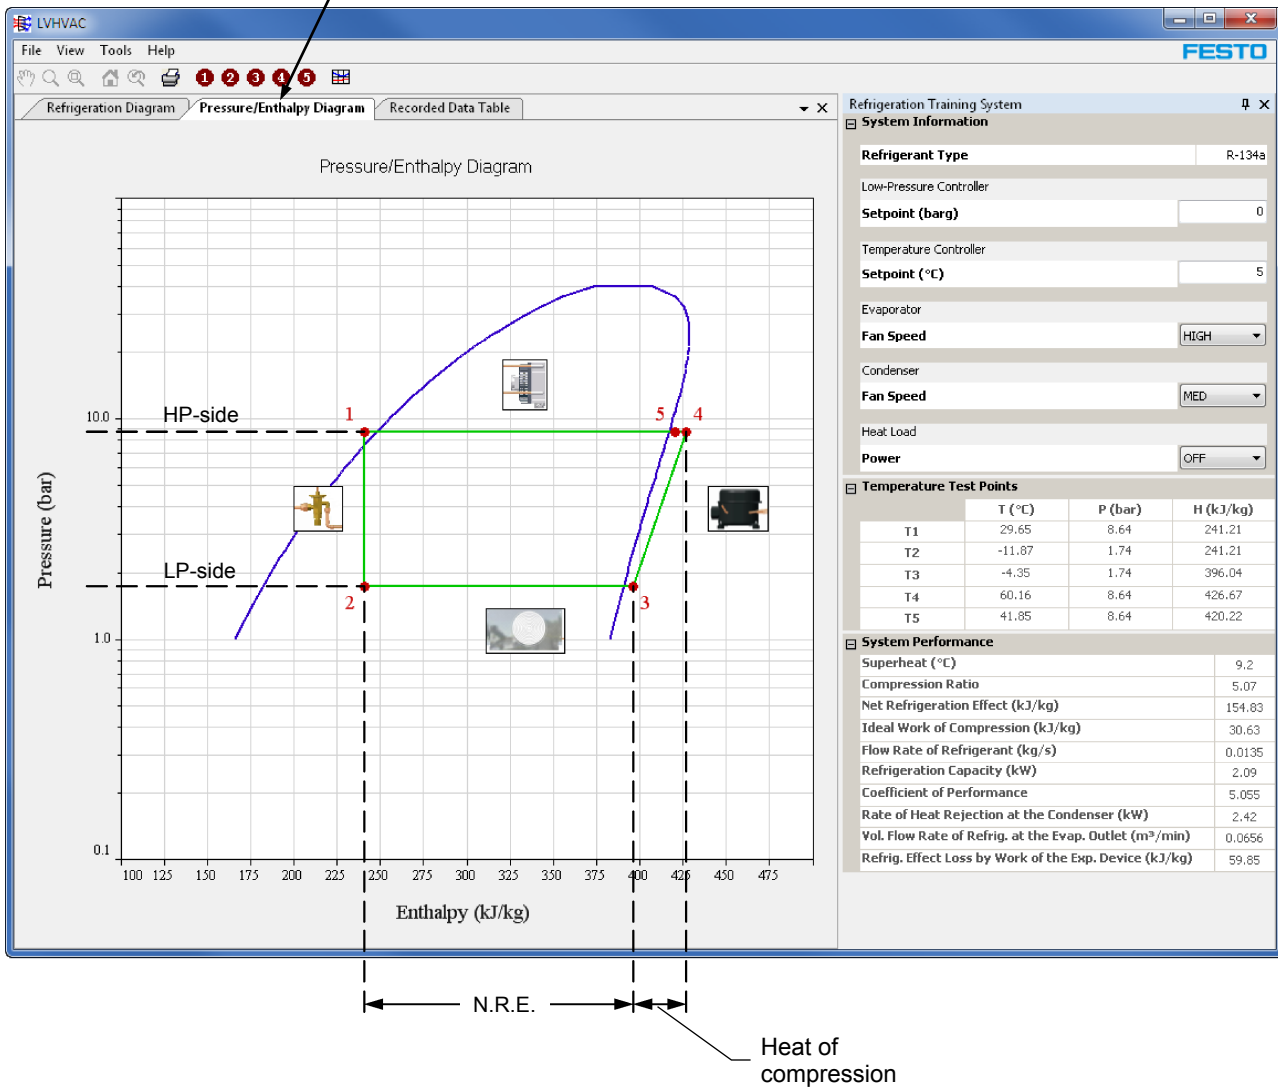

Figure 33. Pressure/enthalpy diagram with normal heat load when the TEV is used.
16. Determine the net refrigeration effect (N.R.E.) graphically on your printed diagram. To do so, draw vertical lines downward from points ② and ③ until they cross the enthalpy (horizontal) axis, as shown in Figure 33. The difference on the enthalpy axis where the lines cross this axis is equal to the N.R.E. Record your result below.
17. Determine the heat of compression graphically on your printed diagram. To do so, draw vertical lines downward from points ③ and ④ until they cross the enthalpy (horizontal) axis, as shown in Figure 33. The difference on the enthalpy axis where the lines cross this axis is equal to the heat of compression. Record your result below.